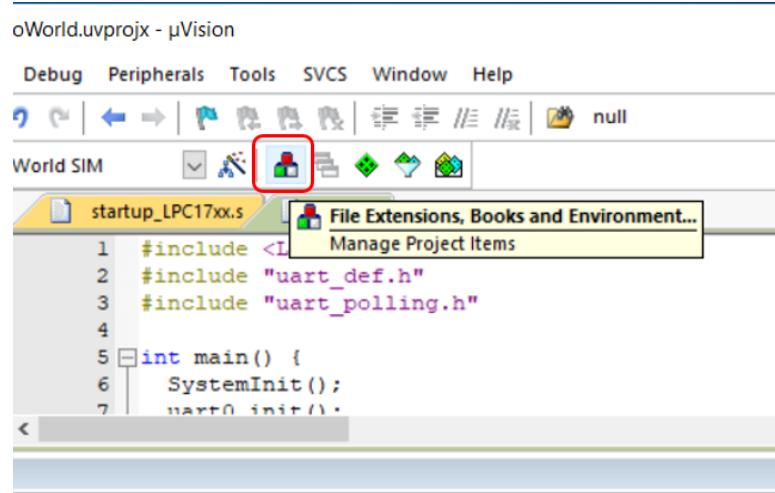

Figure 7.25: Keil IDE: Manage Project Items Button
1. Press the Managing Project Item button (see Figure 7.25).